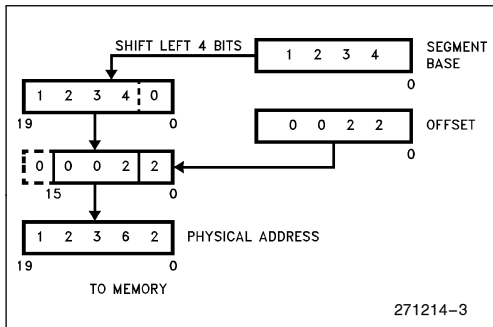

Figure 3. Two Component Address
Memory is organized in sets of segments. Each segment is a linear contiguous sequence of up to 64K (216) 8-bit bytes. Memory is addressed using a two-component address (a pointer) that consists of a 16-bit base segment and a 16-bit offset. The 16-bit base segment values are contained in one of four internal segment registers (code, data stack, extra). The physical address is calculated by shifting the base value left by four bits and adding the 16-bit offset value to yield a 20-bit physical address (see Figure 3). The resulting 20-bit address allows for a 1 Mbyte address range.